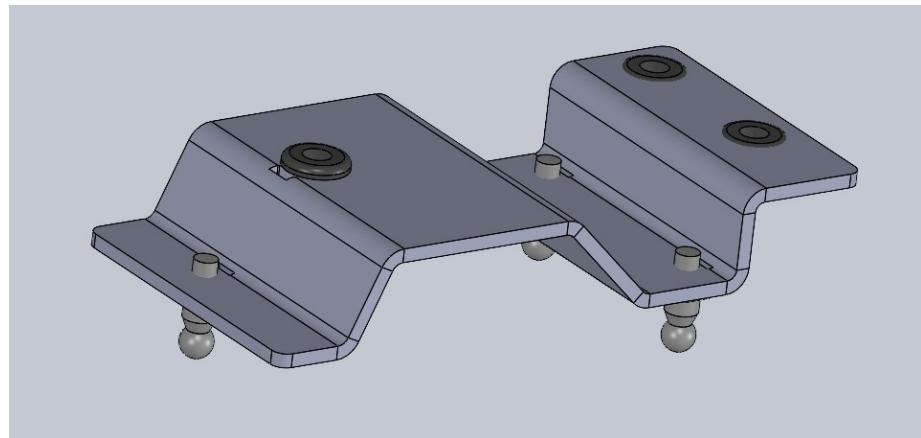

Fig. 2-7 Adapter (part of the retrofit kit FPE)
2. Assemble snaplock couplings into adapter (see Fig. 2-7).